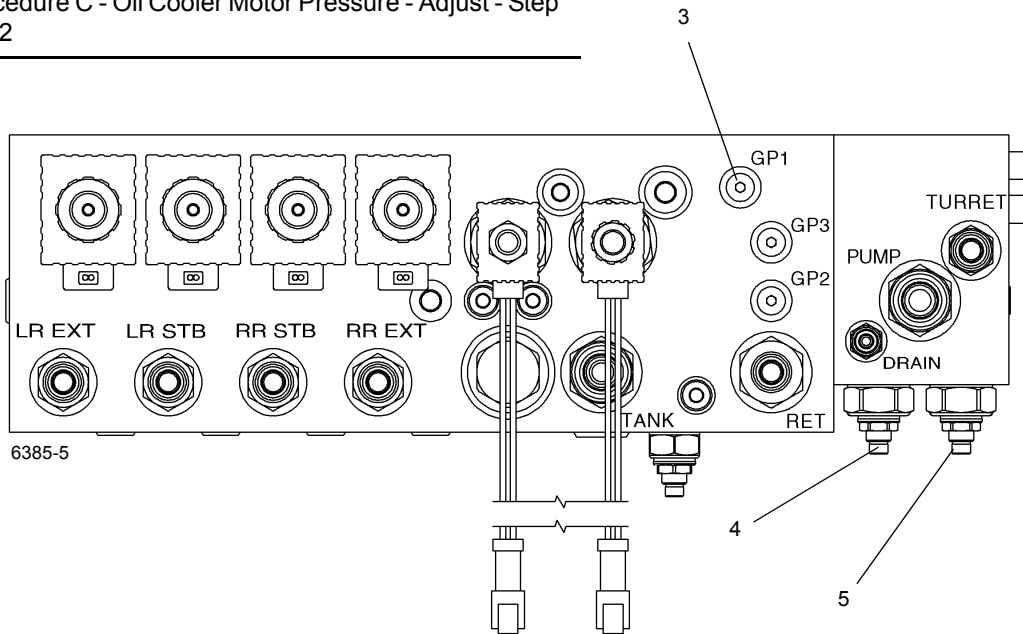

FIGURE 2-12
1. Install a pressure check diagnostic quick disconnect with gauge onto test nipple at GP1 port of the Outrigger Control Manifold (see Figure 2-12).
2. Start engine and throttle up to full RPM. Select and hold the outrigger "extend or retract" switch on the cab dash. Adjust the pressure reducing valve integrated in the Outrigger Control Manifold "in" to increase or "out" to decrease so that a gauge pressure of 2000 psi ±50 is achieved (see Figure 2-12).
2. Start engine, throttle up to full RPM. Stroke lift, hoist or telescope controller by feathering into the controller to full stroke. Adjust the pressure reducing valve integrated in the Outrigger Control Manifold "in" to increase or "out" to decrease so that a gauge pressure of 3000 psi ±50 is achieved (see Figure 2-12).